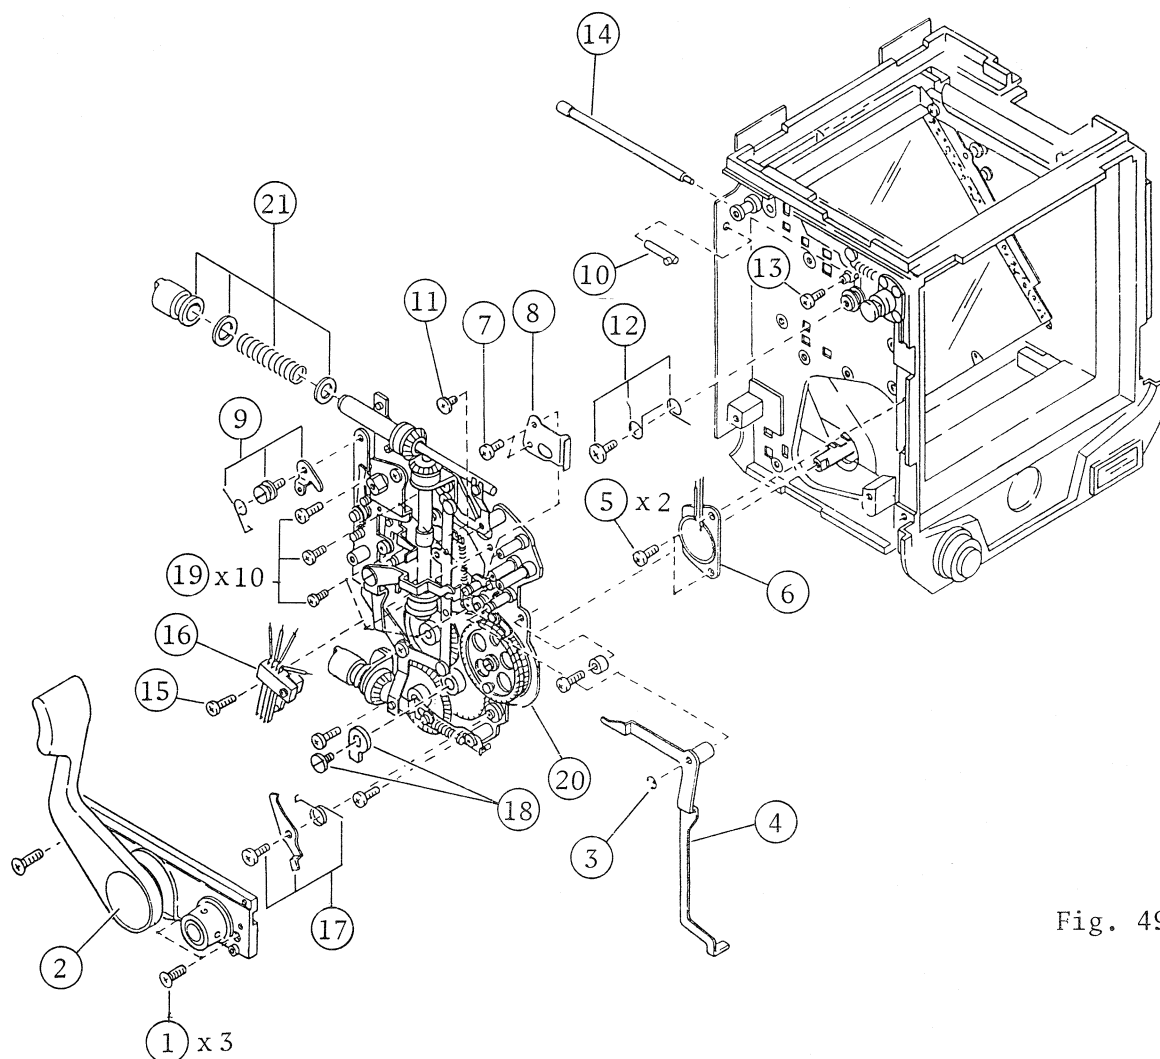
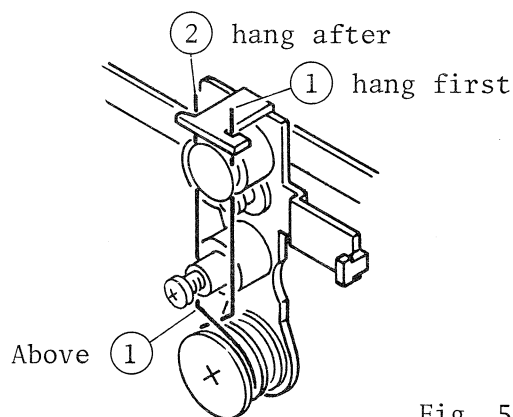

Fig. 49
Fig. 51
- c. The arabic numeral in a circle as shown in Fig. 49 indicates procedure of disassembly.
3. When set the spring for the horizontal screen mask connector, hang (1) first and next (2) as shown in Fig. 51.
4. Check position of (4) lever.
5. Never damage two springs of (B) .
6. Don't forget to hang the spring of (17) winding stop pawl (Fig. 49).